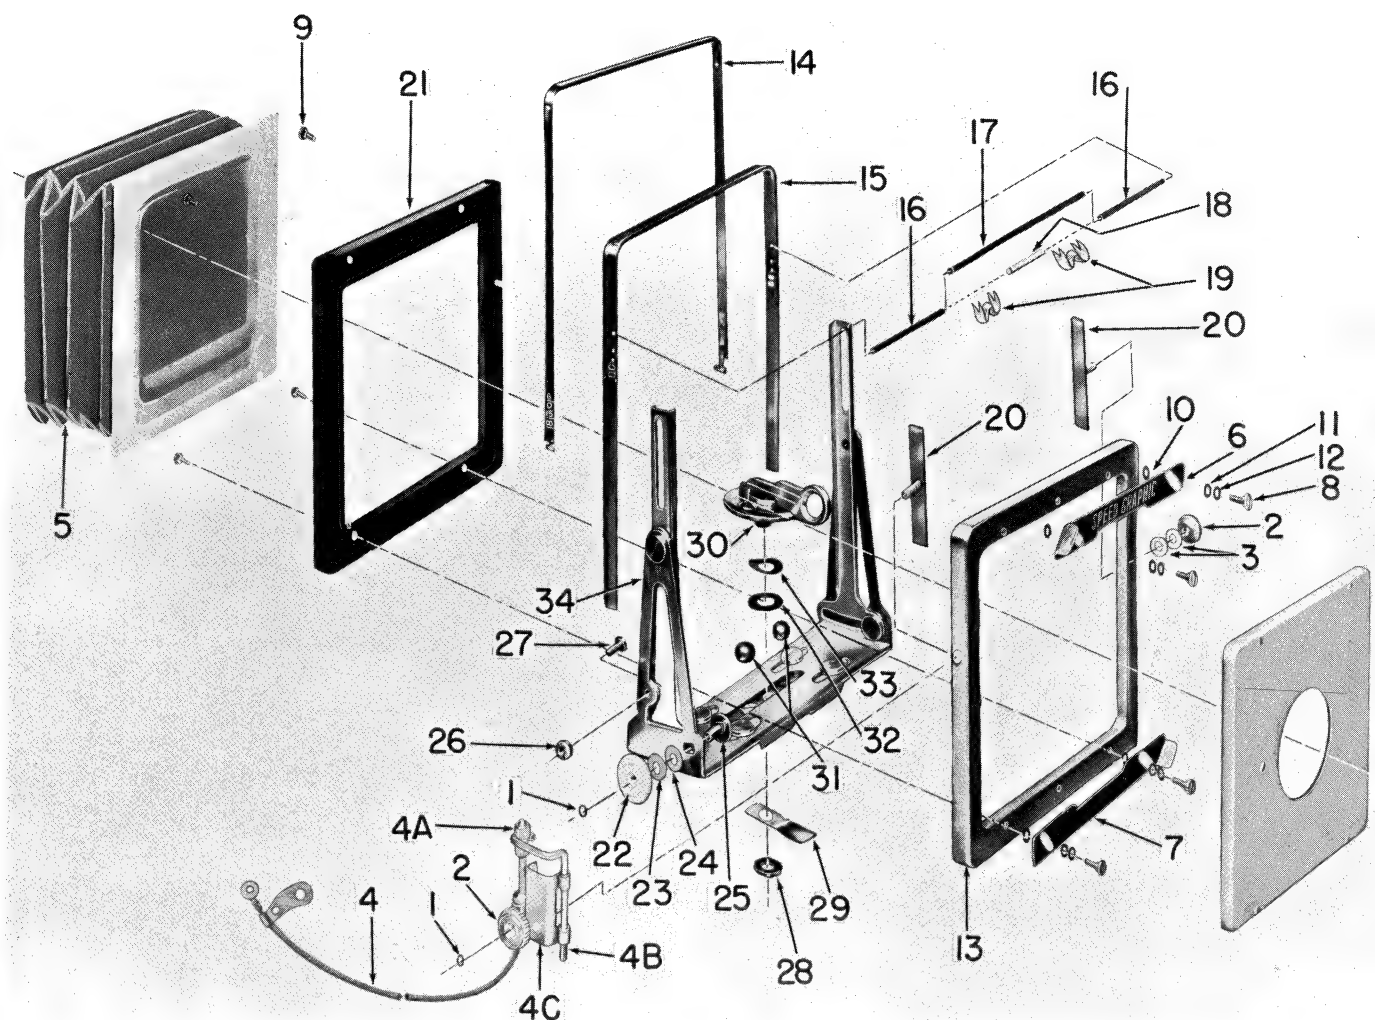

Figure 8. Front Standard, Exploded View
Note: If it is not necessary to remove the bellows assembly (5, figure 8), slide the front standard from the bed and proceed with paragraph C.
(f) Remove the bellows from the frame and support section by removing the lower slide lock (7, figure 8) that is secured by two slide lock screws (8). Swing the lower edge of the front bellows frame back and drop the upper edge free from the slide lock nut head.
2. Cable Release Assembly Removal. To replace the cable release assembly (4) proceed as follows:
(a) Remove the knob retaining ring (1, figure 8), used on early models, from each side of the frame clamp rising front knob (2) and unscrew the knob of each side of the frame. Later models have stud threads staked. Remove the upper and lower lensboard lock (6 and 7) that are attached by slide lockscrews (8), flat washers (10 and 11) and spring washers (12).
infinity stops and lock. Check the height with indicator at each corner and adjust the eccentrics (27, figure 8) or relocate the infinity stop (19 or 20, figure 1).
3. Inspect the finder (14, figure 8) and finder frame (15) for squareness. If the detent holes of the finder frame (15) have become worn by the finder plungers (16), replace the finder frame in order to hold in the desired parallax height.
1. Lateral Shift and Lock Lever. Assemble the lever assembly spring washer and the flat washer to the lever assembly (30, figure 8). Fit the two steel balls (31) into their position between the lever assembly (30) and the standard support assembly (34) and thread the lever assembly stud through the standard support assembly. Lay the shift locking spring (29) in position and assemble the special hexagon nut (28).
2. Adjusting Lock Lever. Check the front standard to determine how tightly it will lock by placing on the sliding yoke of the bed and setting the lock lever (30). It should clamp tightly enough to prevent slippage when the bellows and lens are assembled. To tighten the lock lever, loosen the lock nut (28) on the bottom side and turn the screw in a counter clockwise direction; to loosen the lock, turn the screw in a clockwise direction and then tighten the nut.
3. Lensboard Frame and Sight Reassembly. Lubricate the flat surface of each front frame clamp plate assembly (20) with grease, AN-G-6. Lubricate the sliding areas of the finder (14) and the finder frame (15) with grease, AN-G-6.
(d) Thread the manual trip bracket (4, figure 8) through the bellows hangers and mount the bracket over the right front frame clamp plate stud. Assemble the frame clamp knob (2) andpeen the first thread of the stud at one point.
(a) The manual trip clamp (16, figure 1) is clamped to the manual trip rod (4B, figure 8) and the relationship of the manual trip clamp to the shutter release lever is adjusted by means of the twin cable release nuts (4A).